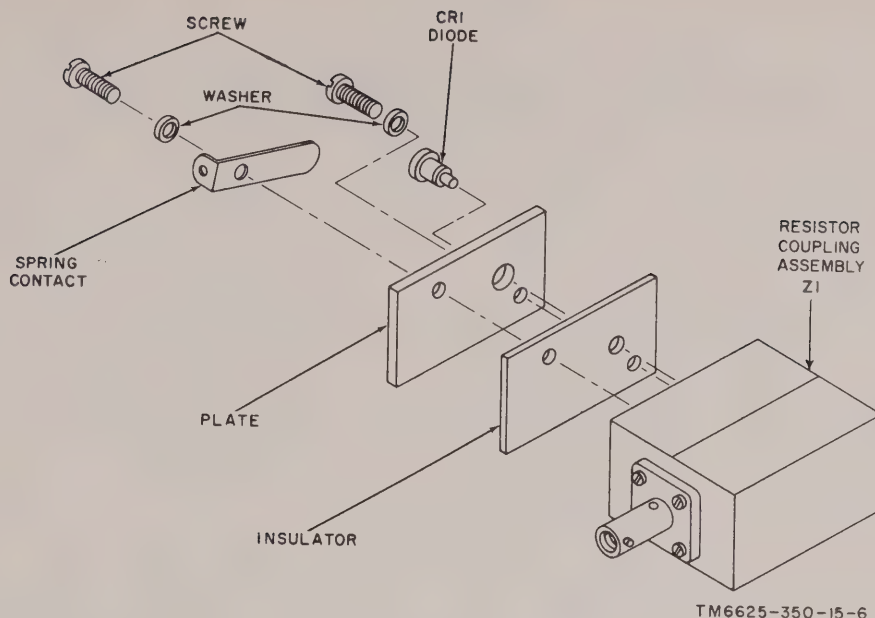

Figure 6. Exploded view.
a. Replacement of Crystal Diode CR1 (fig 6). Crystal diode CR1 is seated in a crystal holder on one side of resistor coupling assembly Z1. The diode is held in position by a spring contact. Remove the diode as follows:
- (1) Remove the four screws that hold resistor coupling assembly Z1 to the front of the chassis. Remove the assembly.
- (2) Loosen the screw that holds the spring contact to the resistor coupling assembly.
- (3) Slide the spring contact away from the diode.
- (4) Remove the diode.
bly (fig. 6). Replace resistor coupling assembly Z1 as follows: